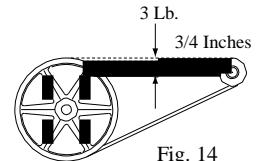

Fig. 14
- Check belt tension.** A 3 lb. force should deflect the belt 3/4 inches (see Fig. 14). Readjust belt if needed.